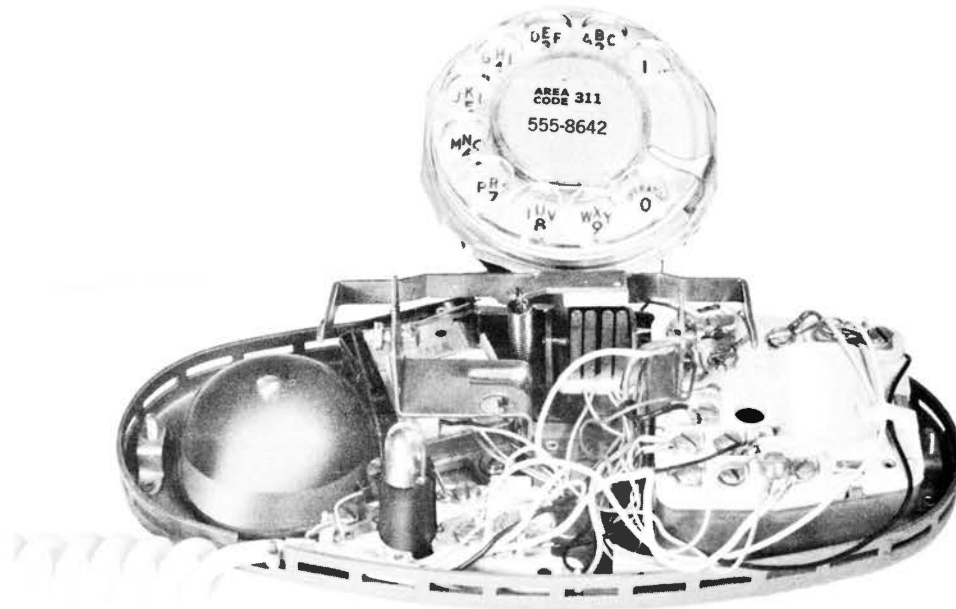

Fig. 12 - 702B Telephone Set
1.04 The 702B (Fig. 12) and 702D telephone set photographs are of shop models only and will have slight changes from the actual production sets.